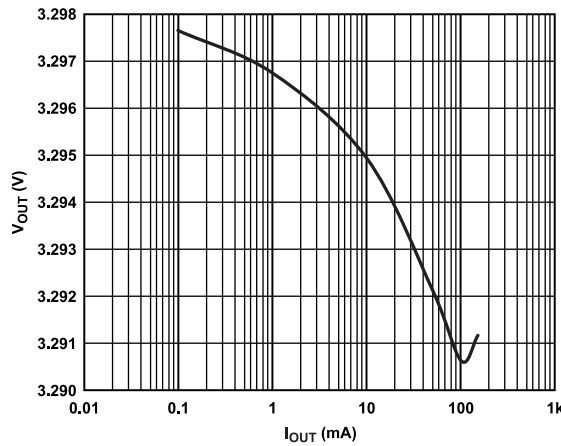

Figure 6. Output Voltage (V_{OUT}) vs. Load Current (I_{OUT})
- ¹ Based on an end-point calculation using 1 mA and 150 mA loads. See Figure 6 for typical load regulation performance for loads less than 1 mA.